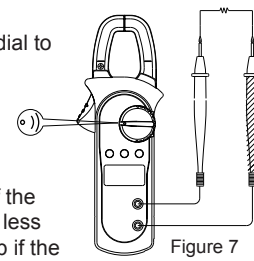

Figure 7
5. Continuity Test (\rightarrow) (See Figure 7)